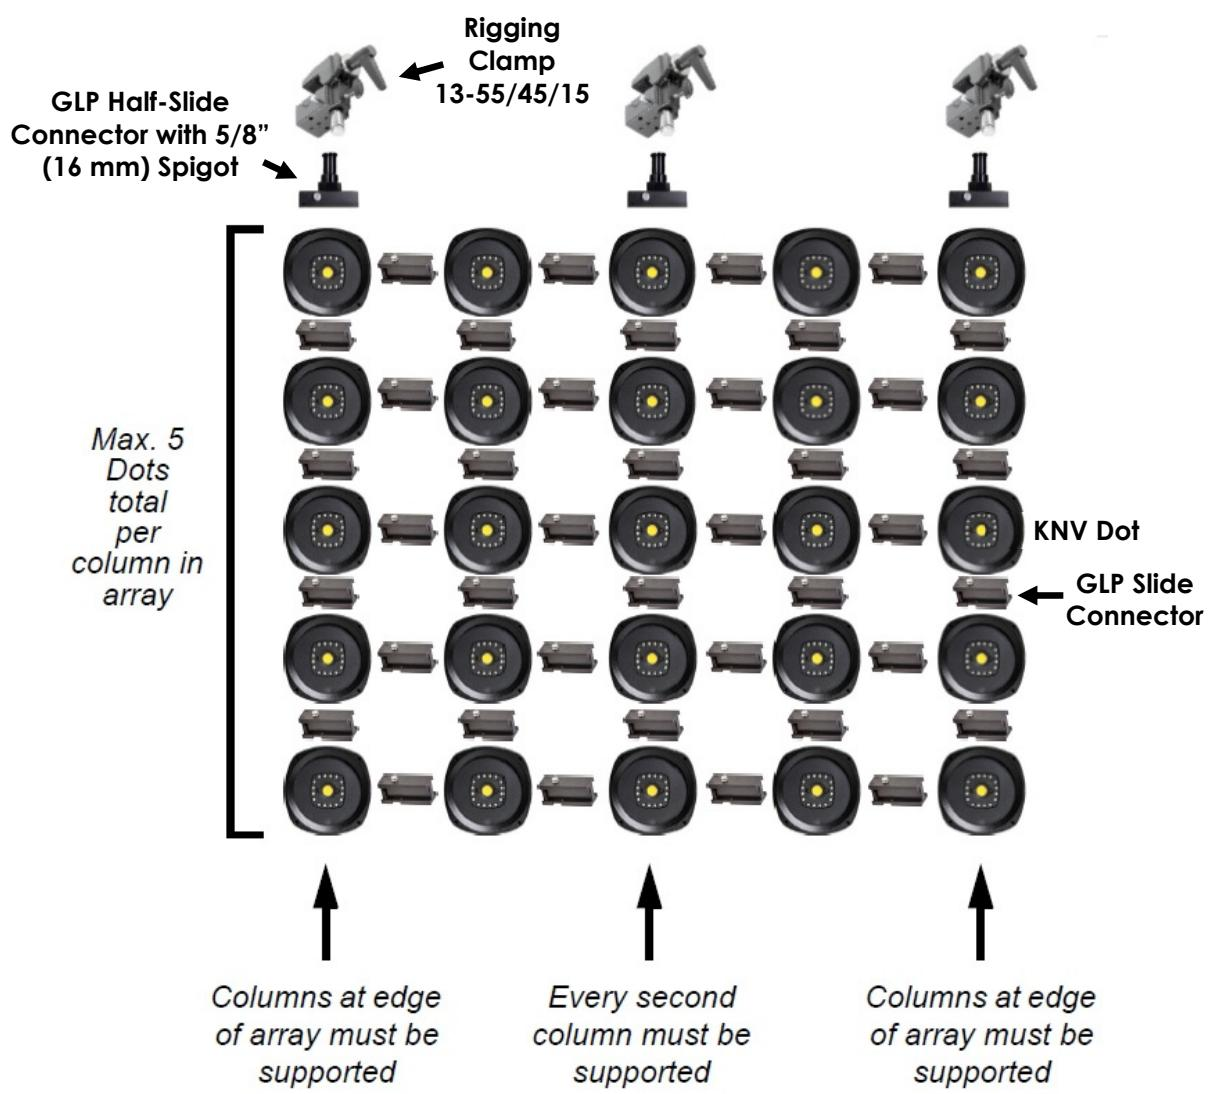

Figure 16. KNV Dots array, every second column independently supported
1. See Figure 16 on page 31. For both columns at the outside of the array and for at least every second column inside the array, obtain either:
5. Add KNV Dots underneath the top row. Do not allow any column of Dots to exceed the vertical limit of maximum of five (5) Dots high for an array where every second column is supported. Each time you add a Dot, fasten it to the Dots on all sides using GLP Slide Connectors as described in 'Fastening KNV Dots together' on page 22.